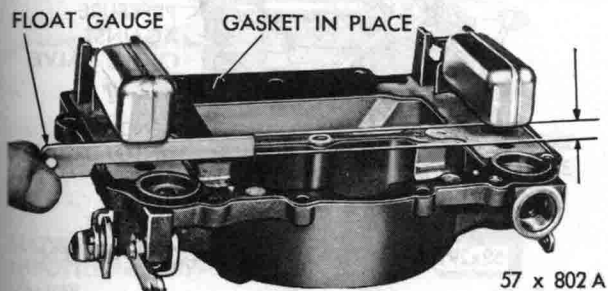

Fig. 67—Checking Float Height
(1) With the air horn inverted, the air horn gasket in place and the float needle seated, slide float gauge Tool T109-106 ( $\frac{7}{32}$ " ) between the top of the float (at outer end) and the air horn gasket, as shown in Figure 67. Float should just touch gauge.
(2) Check the other float in the same manner. If an adjustment is necessary, bend the float arm using Tool T109-22, until correct clearance has been obtained. After bending arm, recheck the float alignment.